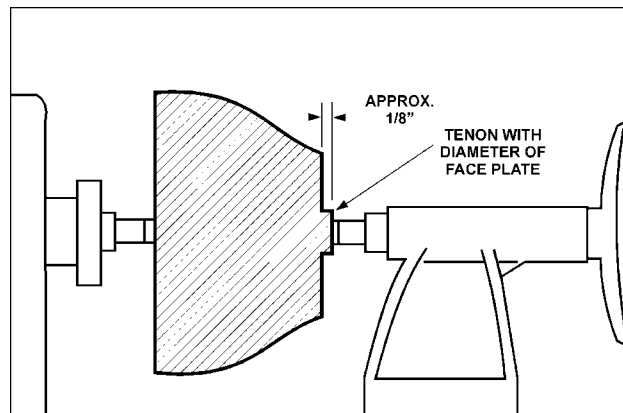

Fig. 22
3. Slip spur center into headstock taper and bring the tailstock, with a live center into position. Lock tailstock to bed and advance spindle in order to seat the cup center into workpiece, see Figure 22. Tighten quill lock.
8. As the bowl takes shape, work on the bottom (tailstock end) to accommodate attaching a face plate, see Figure 22.
9. Turn a short tenon (about 1/8" long) the size of the hole in the faceplate, see Figure 22. This will allow centering the workpiece when the faceplate is attached. **Note:** If you plan to use a chuck, turn a tenon of appropriate length and diameter to fit your chuck.